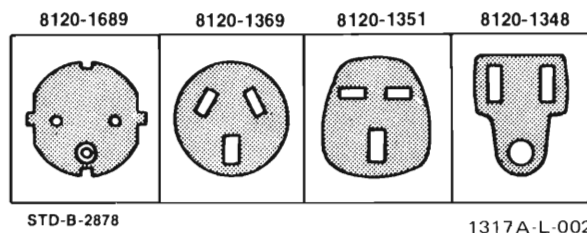

Figure 2-1. Power Receptacles
2-10. *Power Cord.* The power cord required depends on, (1) the ac input voltage, and (2) the country in which the instrument is to be used. Figure 2-1 illustrates the standard power receptable (wall outlet) configurations that are used throughout the United States and in other countries. The HP part number shown directly above each receptable drawing is the part number for a power cord equipped with the